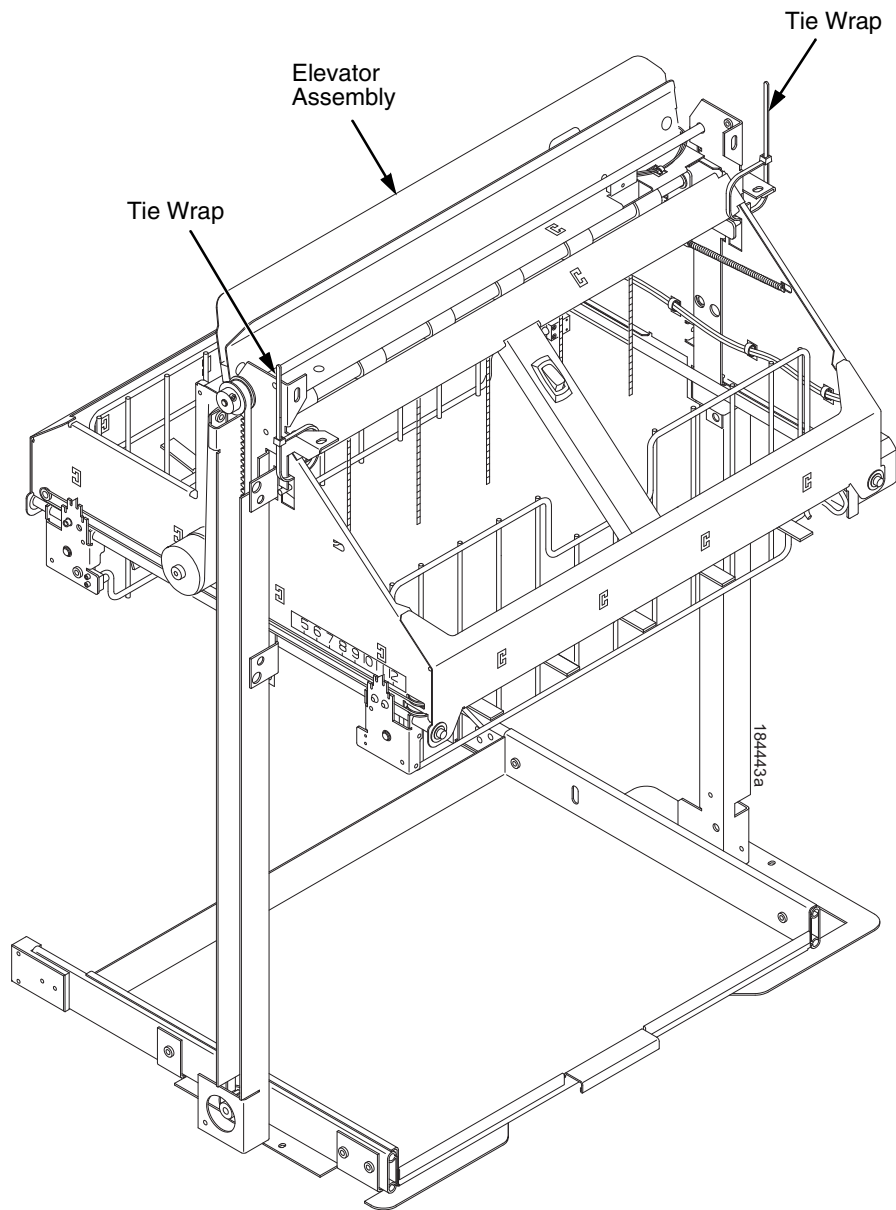

Figure 92. Securing the Elevator Assembly
2. Raise the elevator assembly to within about 1/4 inch of its highest position and secure it to the vertical rails using tie wraps or string. Do not over-tighten the tie wraps or string; tighten them just enough to hold the elevator up. (Figure 92.)
2. Raise the elevator assembly to its highest position and secure it to the vertical rails using tie wraps or string. Do not over-tighten the tie wraps or string; tighten them just enough to hold the elevator up. (Figure 92, page 478.)